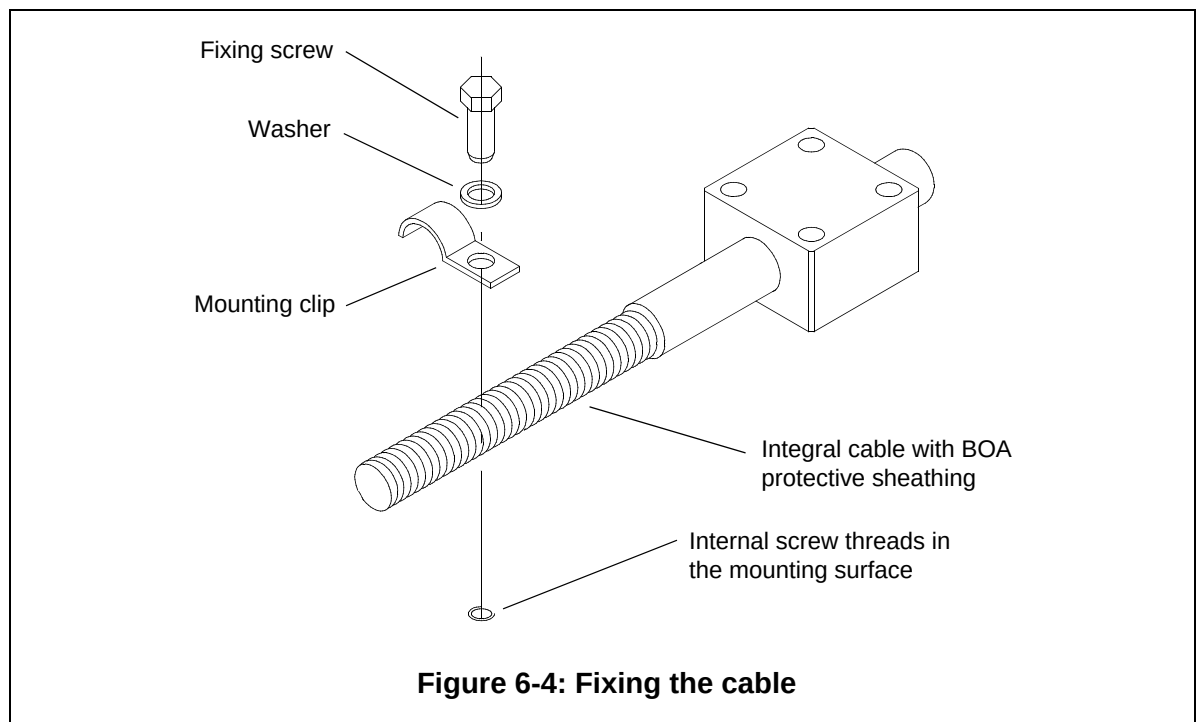

Figure 6-4: Fixing the cable
- 6) Position the mounting clips on the integral cable (see Figure 6-4).